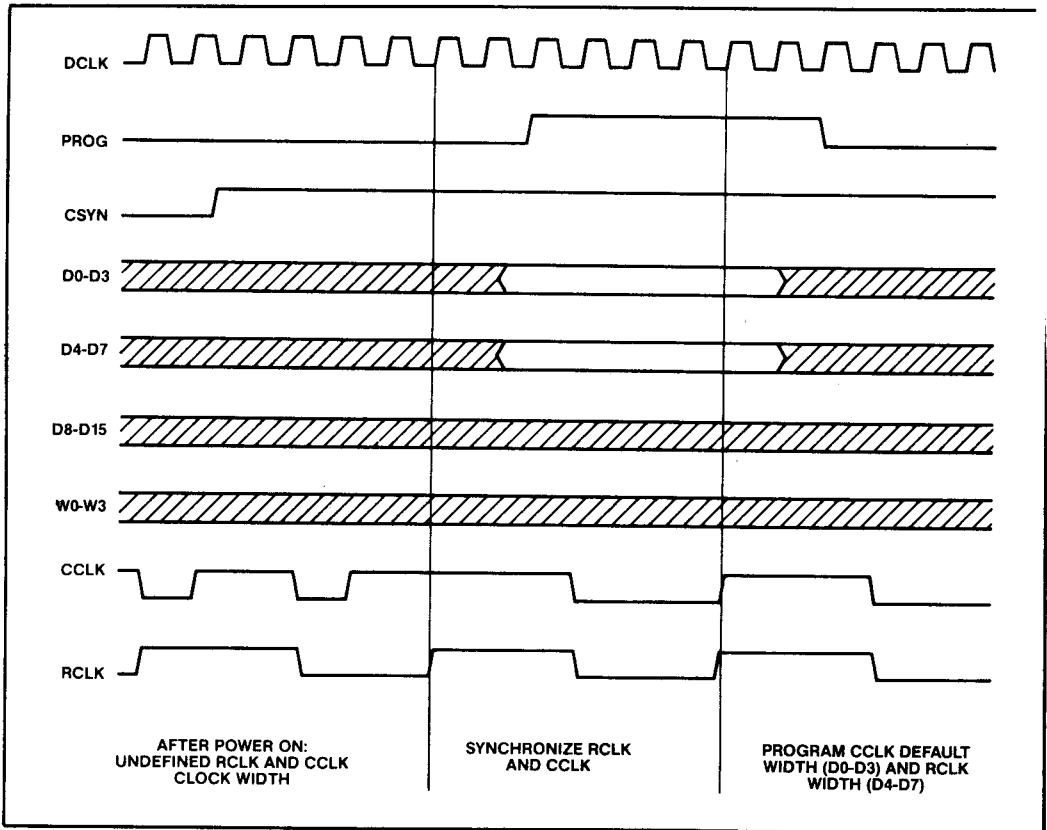

Figure 6. Clock Initialization
RCLK is the reference clock output used to generate video timing and to define screen columns for data formatting and tabular locations. In addition, it is used to clock the field attribute signals into the 82731. The period of RCLK is programmable from 6 to 21 times the period of the dot clock, i.e. the RCLK hightime is 3 dot clock periods and the RCLK low-time is programmable from 3 to 18 dot clock periods. It is programmed via D4-D7 at the rising edge of CCLK, when PROG is active (see Table 1 and Figure 6).
If the width defeat attribute (WDEF) is active, the period of CCLK will be set to the programmed default value ignoring the clock width inputs W0-W3. This value is programmable from 3 to 18 times the period of the dot clock via the D0-D3 inputs, when the PROG input is active (see Figure 6).
- Activate the PROG signal. The default width of CCLK and the width of RCLK are programmed at the next rising edge of CCLK (see Figure 6).